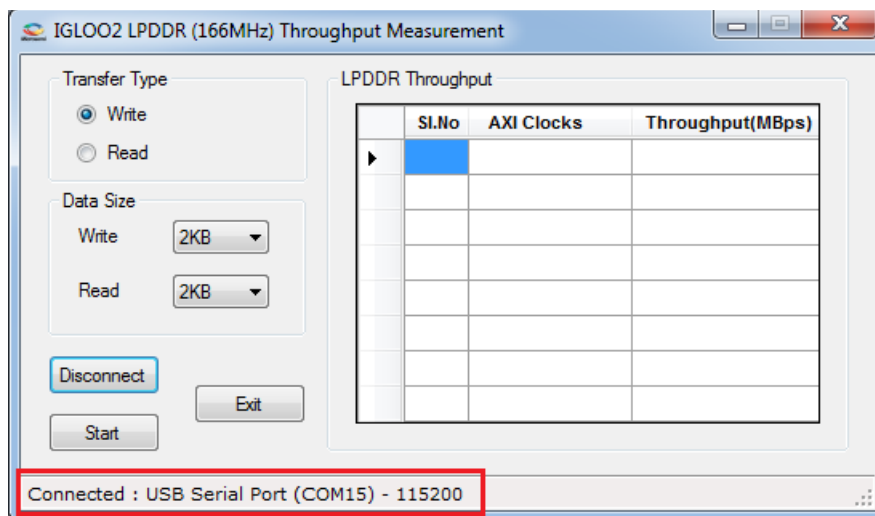

Figure 35 • IGL2_LPDDR_BW Connection Status
2. Click **Connect** and wait for few seconds to connect the proper FDTI COM port. The connection status along with the COM port and Baud rate is shown in the left bottom corner of the window. Figure 35 shows the connection status of the utility.